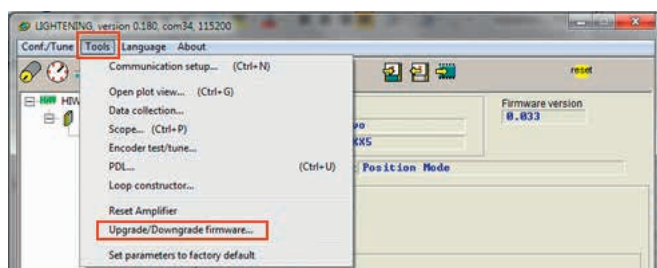

Fig. 6.63 Menu “Tools” – “Upgrade/Downgrade firmware”
- ▶ Select **“Upgrade/Downgrade Firmware”** (see Fig. 6.63).